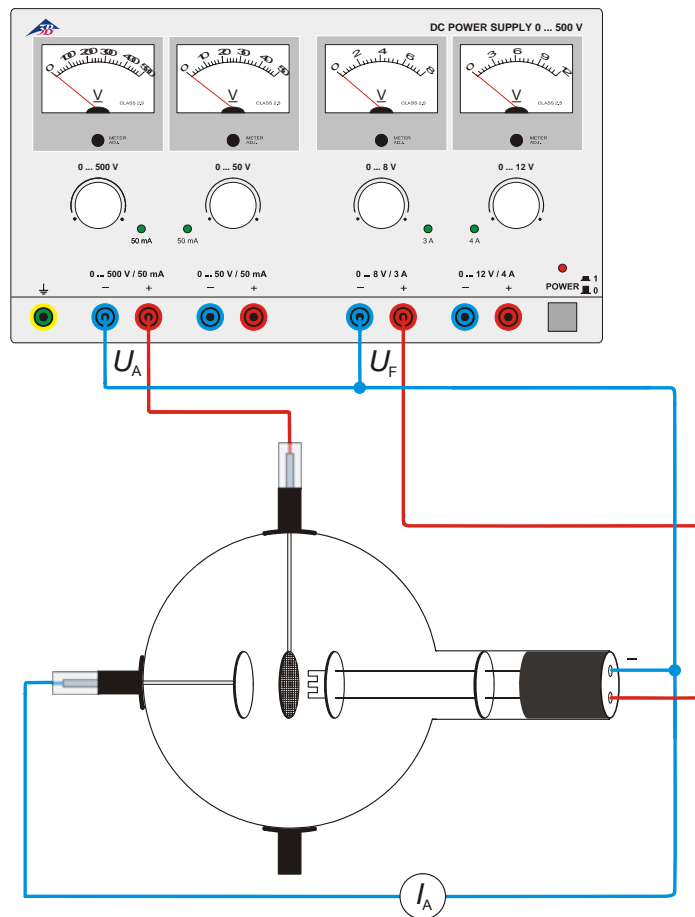

Fig. 3 Generating cathode rays
- Set up the circuit as in Fig. 3 so the grid and cathode form a diode. Connect the minus pole of the anode voltage  $U_A$  to the 4-mm socket marked with a minus.